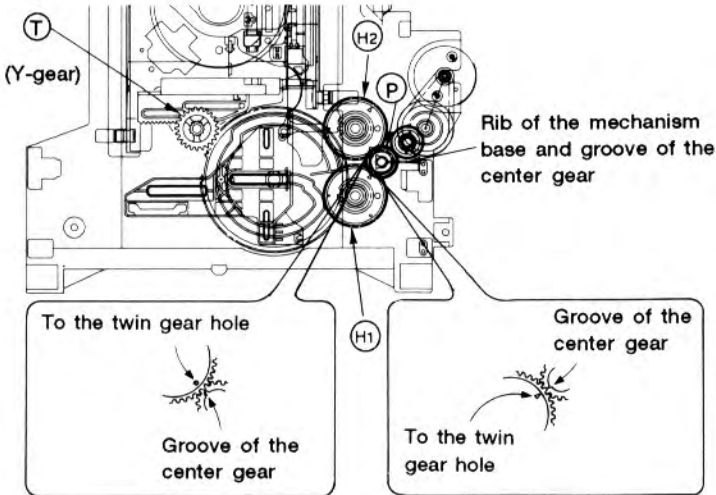

Fig. 2-11
- Attach the center gear ②, twin gears ⑧① and ⑧②, and Y-gear ⑨ in the positions indicated in Fig. 2-11.